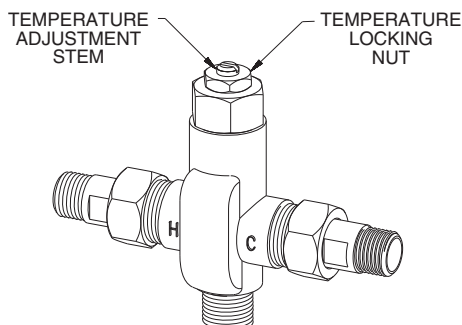

Figure 13
- USING A BLADE SCREWDRIVER, TURN THE ADJUSTMENT STEM COUNTERCLOCKWISE TO INCREASE THE TEMPERATURE OR CLOCKWISE TO DECREASE THE TEMPERATURE (FIGURE 13).